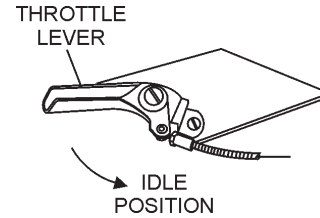

Figure 9. Throttle Lever (Idle Position)
2. Place the trowel's **throttle lever** (Figure 9) to the "IDLE" position.